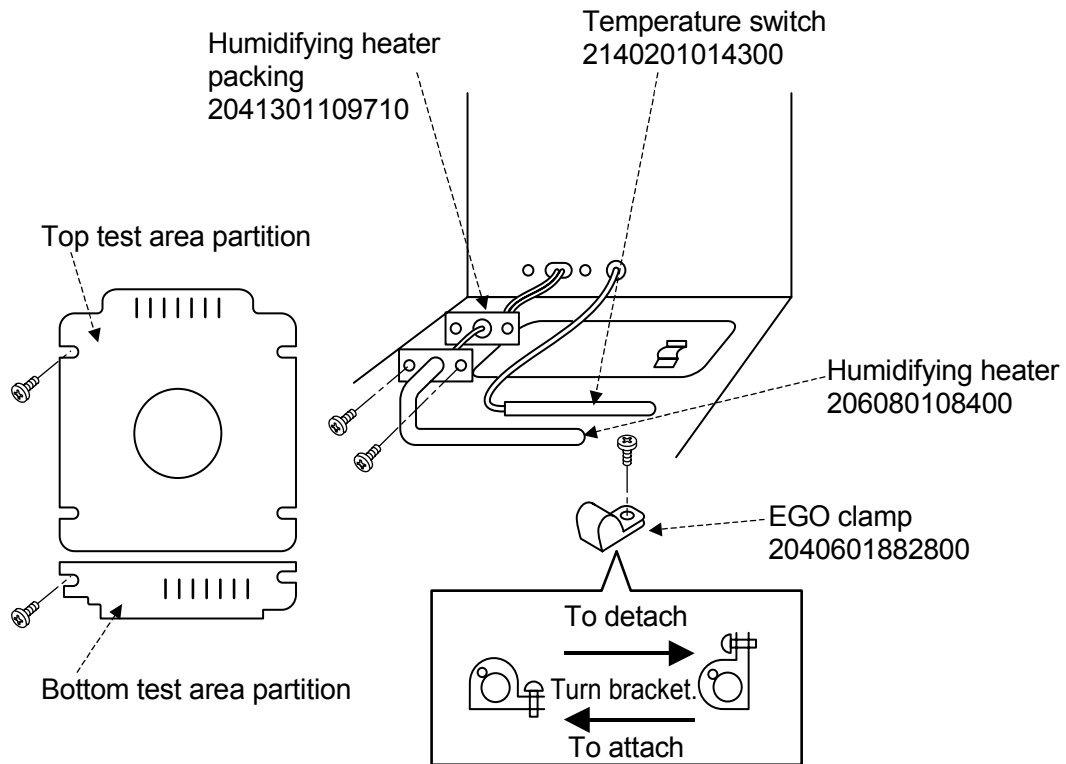

Fig. 5.26 Humidifying heater replacement
4. Open the chamber door. Remove the screws that lock down the top and bottom test area partitions and detach the partitions. (See Fig. 5.26.)